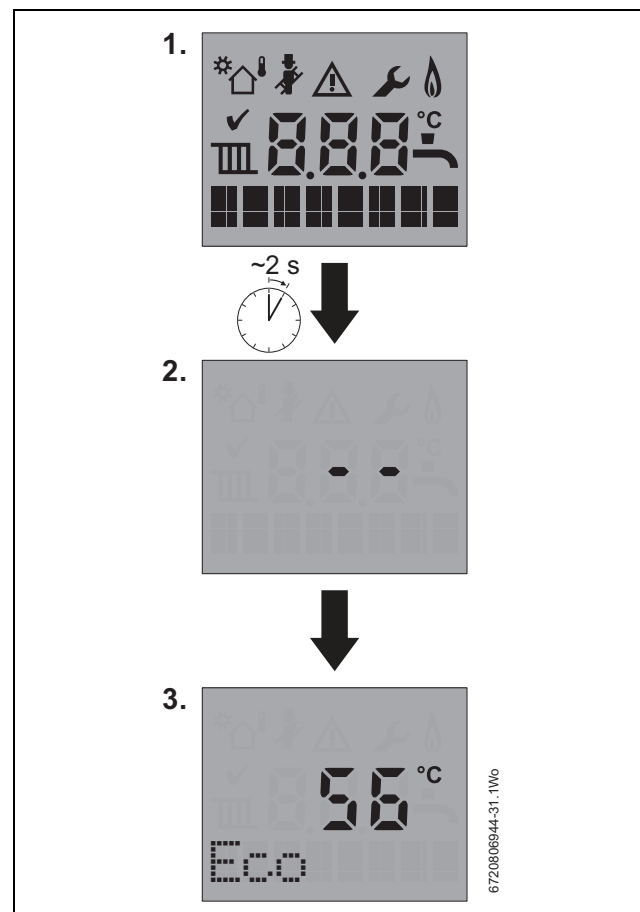

Fig. 48 Appliance start up screen
- ▶ Turn on mains power, initially the "Appliance start up screens" will be displayed (refer to figure 48).